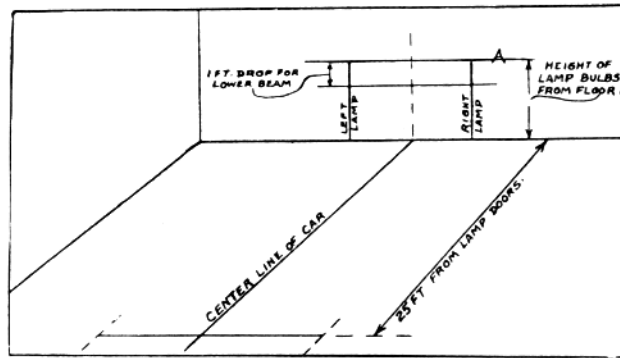

Fig. 4. Car Position
**Second**—Mark a horizontal line "A" (Fig. 4) on the wall at the height of headlight bulbs from ground. Next mark two vertical lines from line "A" to the ground, exactly in front of each headlamp center. The distance